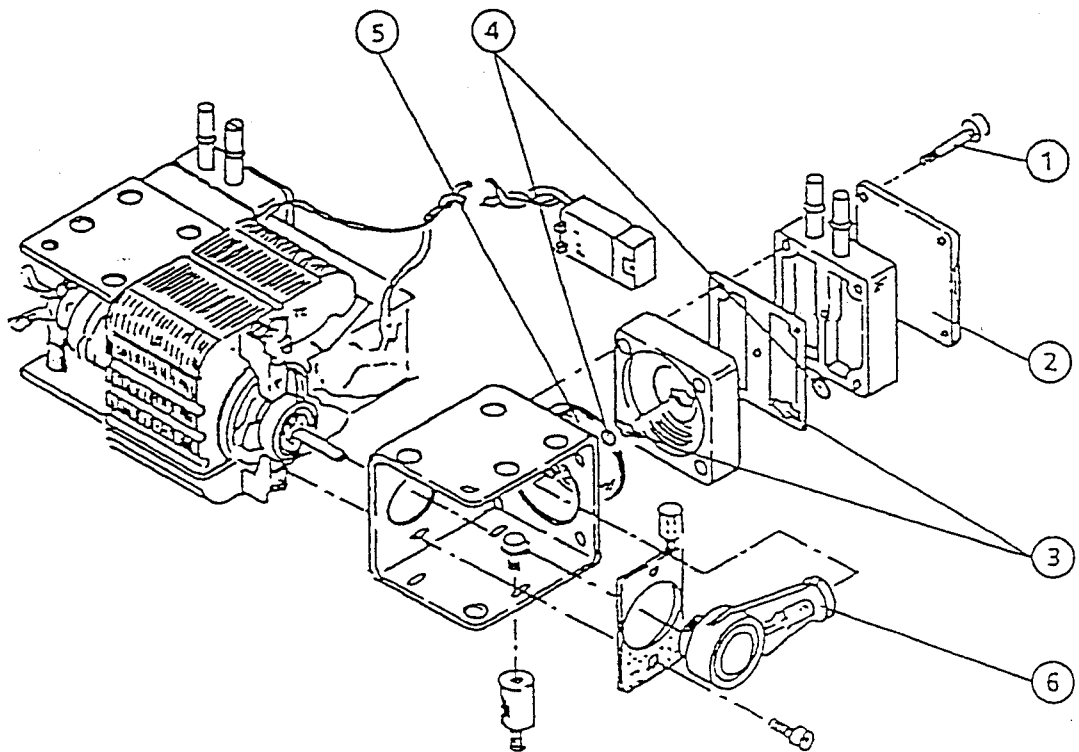

Fig. 6-2 Replacing the Pump Diaphragm
- Remove screws ① from cover plate ② of pump and disassemble the pump, referring to Figure below. Take the parts out from the top. (See Fig. 6.2)
- Replace valve-read ③ after removing screw-ring ④.
- Replace diaphragm ⑤ after removing screw from piston rod ⑥.
- f) Replace diaphragm ⑤ and related parts with new ones that are packaged in a diaphragm kit.